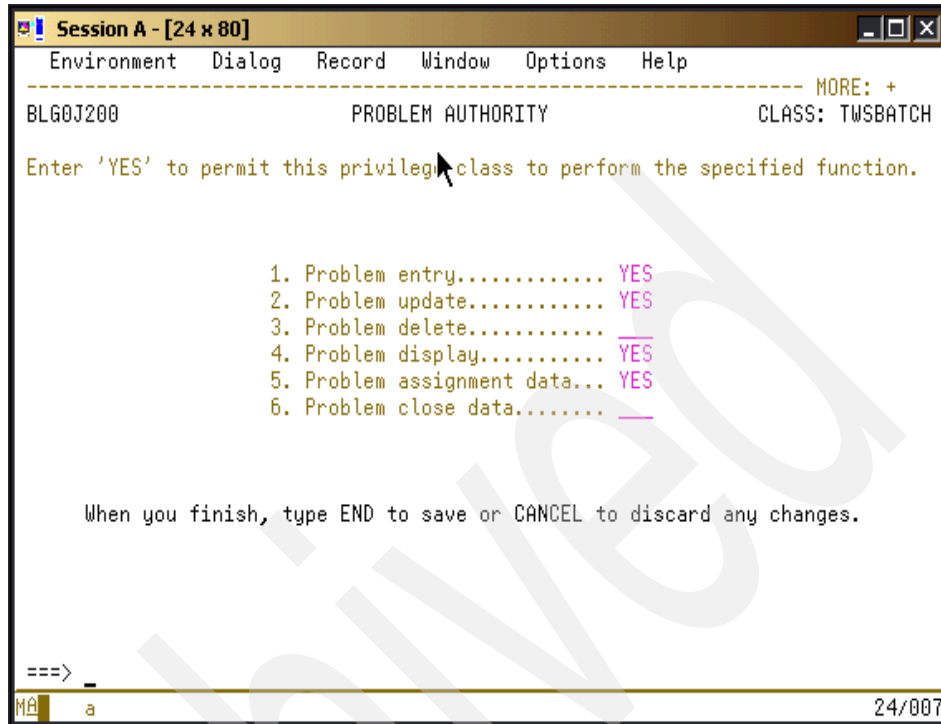

Figure 2-11 Problem Authority panel
7. Select option 1 - **PROBLEM** and press Enter. The PROBLEM AUTHORITY panel shown in Figure 2-11, "Problem Authority panel" on page 65 displays.